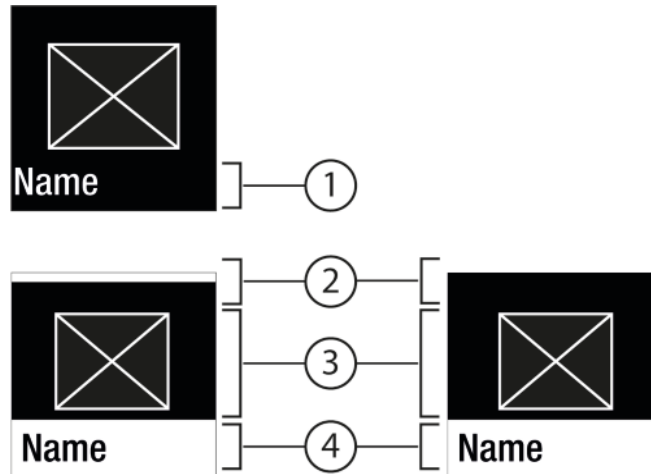

**Fig. 6**
- Press Confirm Fig. 5 (2) to activate Fig. 6 (1) / deactivate Fig. 6 (1) the function.
- Set a new value: Press Confirm Fig. 5 (2) to select an active value Fig. 6 (1).
- Back to the menu: Press Confirm Fig. 5 (2) to select the active value Fig. 6 (2).
- ▷ Status: On *Fig. 6 (1)* appears briefly in the submenu *Fig. 7 (4)*.